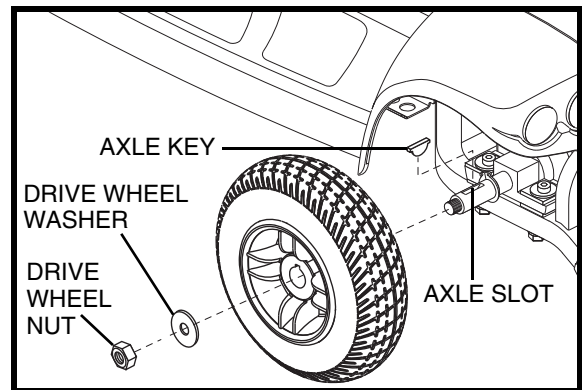

Figure 25. Wheel Replacement
3. Remove the drive wheel nut and washer from the axle. **See figure 25.**